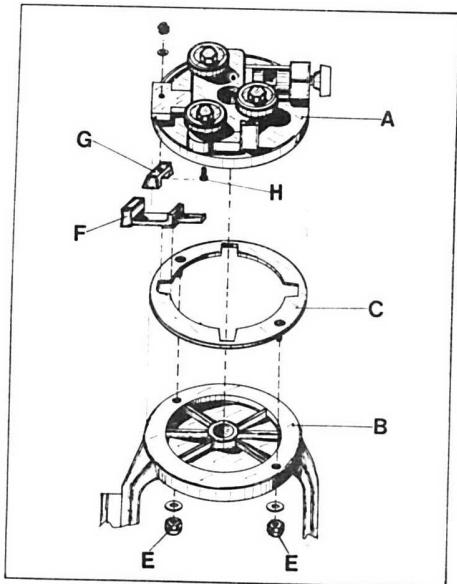

Fig. 11
TO ADJUST SAWBLADE PARALLEL TO ARM TRACKS, LOOSEN NUTS (E) AND TURN YOKE (B) SLIGHTLY TO LEFT OR RIGHT UNDER COLLAR (C), UNTIL BLADE POSITION PARALLEL TO ARM TRACKS IS FOUND. TIGHTEN NUTS (E). (Fig. 11).
PER LA REGOLAZIONE DEL PARALLELISMO TRA LA LAMA E LA PISTA DI SCORRIMENTO, BISOGNA ALLENTARE I DADI (E) ED AGIRE SULLA FORCELLA PORTAMOTORE (B) CAMBIANDOGLI POSIZIONE RISPETTO ALLA RALLA (C). (Fig. 11).